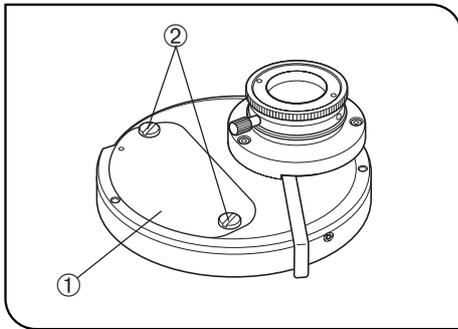

Fig. 35
(Figs. 35 to 38)
With the WI-UCD Condenser (Figs. 35 - 37)
4. After attaching all of the required DIC prisms, attach the cover ① and tighten the retaining screws ②. (Fig. 35)